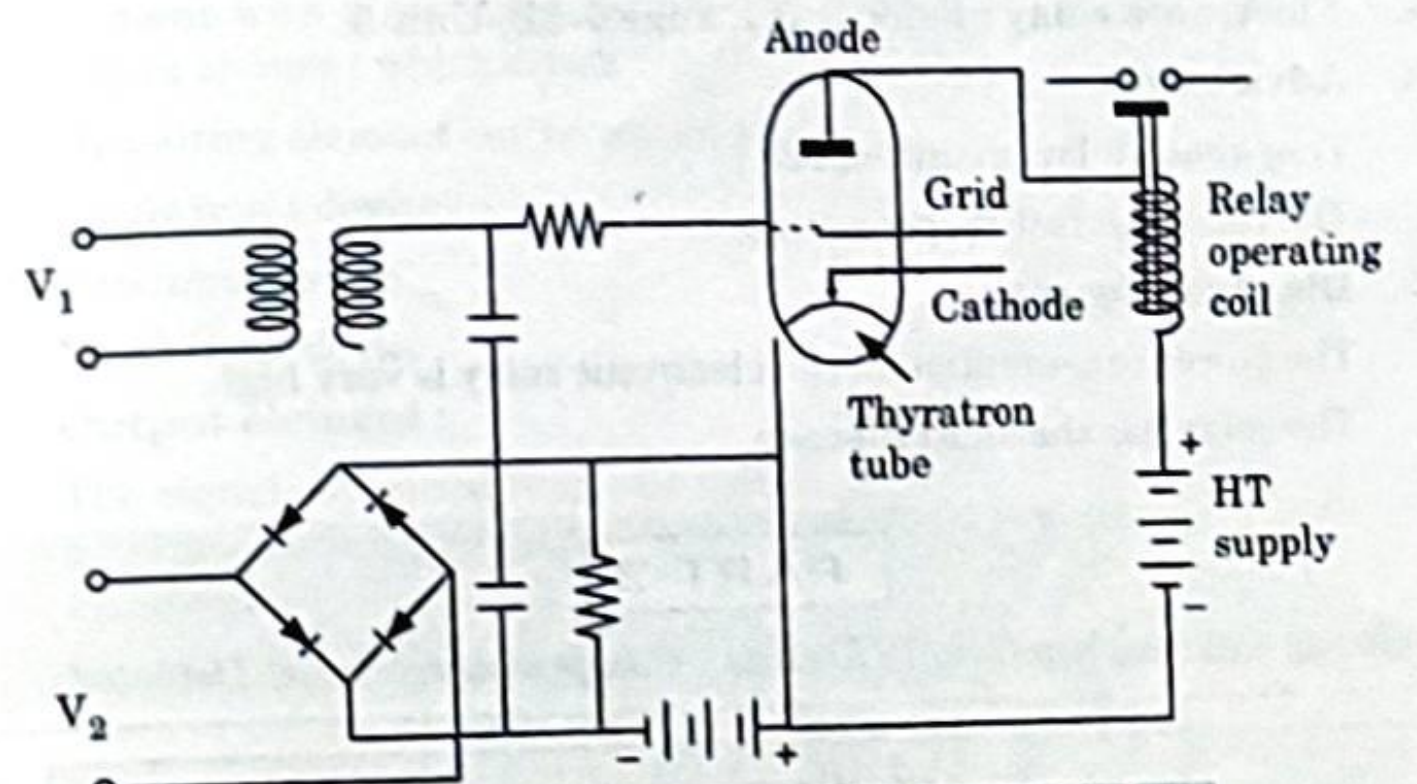

Fig. 5.1.1. Amplitude comparator electronic relay.
- i. The amplitude comparator electronic relay is shown in Fig. 5.1.1.